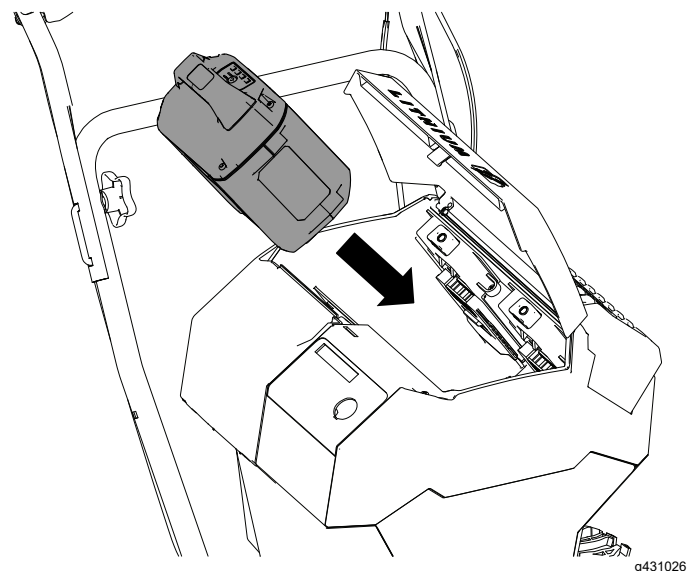

Figure 11
3. Line up the cavity in the battery pack with the tongue on the machine and slide the battery pack into the compartment until it locks into place (Figure 11).